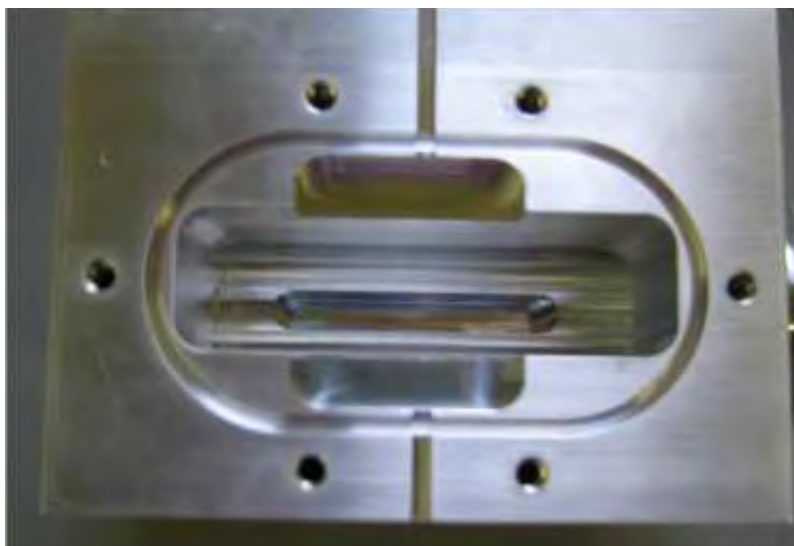

Figure B-54 Inside of Spectrometer Body
10. If the inside of the spectrometer body appears to be dirty, clean it with a lint free wipe and Isopropyl alcohol (Figure B-54).